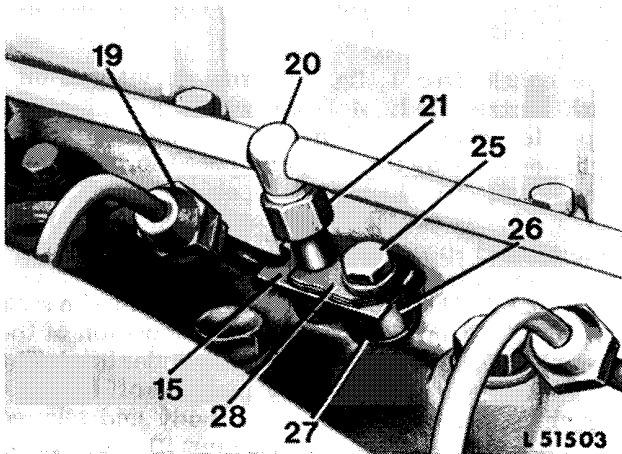
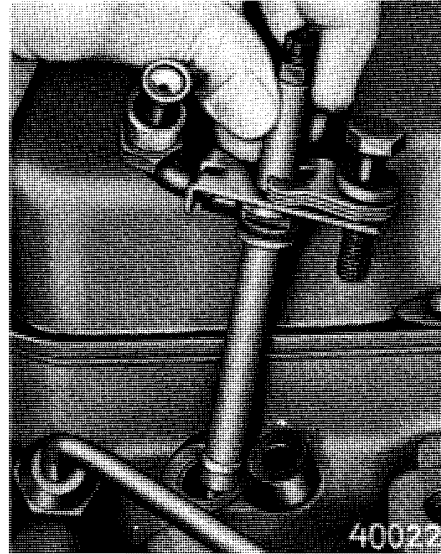
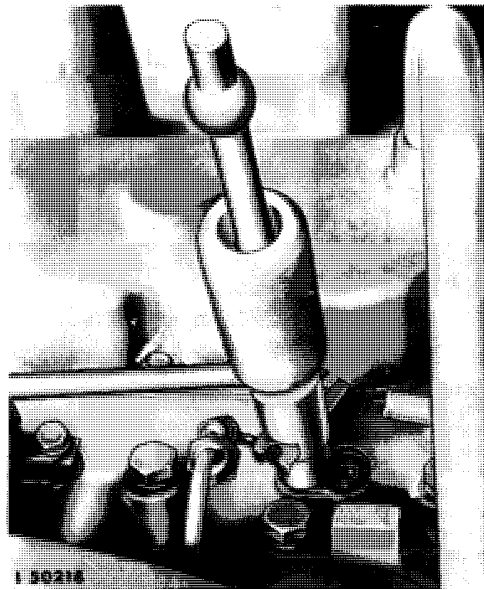

Fig. 2 — Injection Nozzle Installed
Fig. 3 — Removal of Injection Nozzle by Hand
Fig. 4 — Removal of Injection Nozzle with Special Puller No. JDE 38
The nozzle (see 1, fig. 1) forms an integral unit with nozzle body 4 from which it cannot be separated. The injection nozzle is secured in the cylinder head by three superimposed spring clamps (see 28, fig. 2) which press on clamp 15, and a cap screw 25; the contact pressure is limited by spacer ring 26 and spacer washer 27. The nozzle is sealed in the cylinder head at its lower end with a carbon stop seal 2. The top end is sealed with plastic seals 5 and 24. Clamp 15 ensures correct position of the complete injection nozzle in the cylinder head. The leak-off line is connected by fuel leak-off boot 20, which is fitted on the nozzle body and secured with plastic ring 22 and knurled nut 21.
2. Withdraw leak-off hoses from leak-off boots 20 (fig. 2) of injection nozzles to be removed. Turn knurled nut 21 off boot 20. Remove boot and withdraw knurled nut 21 with plastic ring 22 (see fig. 1) from nozzle.
4. Remove cap screw 25 (fig. 2) from cylinder head and pull complete injection nozzle from cylinder head by hand (see fig. 3). Should this not be possible because the nozzle is "set" in the cylinder head with carbon deposits, then use special puller No. JDE 38 (see fig. 4).